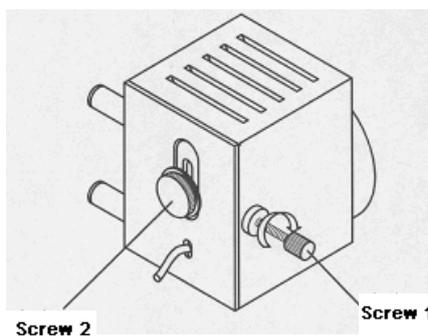

Figure 6-7 Adjust Screw to Make Even Light
7. Observe through the measuring microscope. Turn screw 1 clockwise to tighten it and adjust it to make the light in vision field as even as possible (If necessary, you can adjust screw 2). Refer to Figure 6-7.